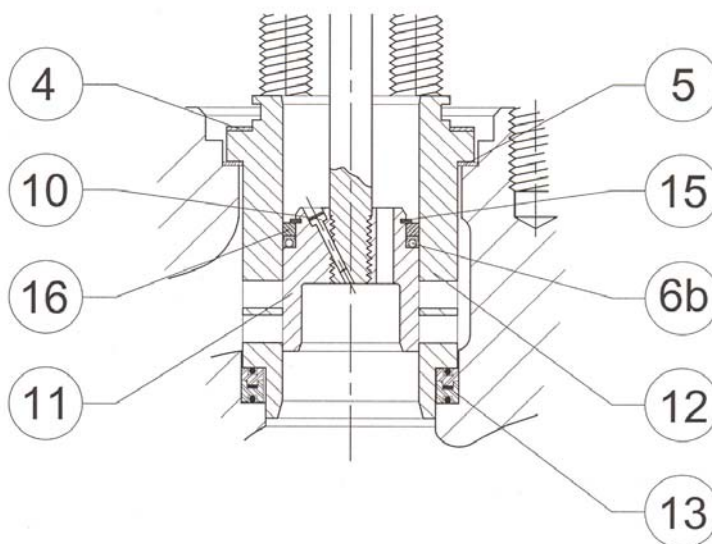

Figure 3: CVS H-900, H-1500 and H-2500 Valve Body Showing Design ET Trim
1. **Design ED** is suitable for general to high-temperature control applications where tight shutoff is not required. Design ED is a single-port, globe-style body with cage-guiding, balanced valve plug and push-down-to-close valve plug action (Figure 3).